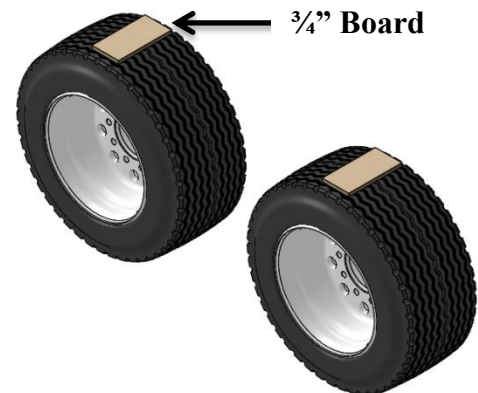

Figure 3
- a. For an air suspension system, place a $\frac{3}{4}$ ” board on top of the tires after the air is released from the airbags (Figure 3). Place the fender on top of the board.